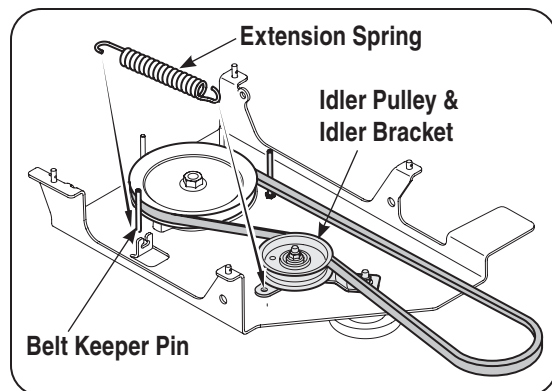

Figure 4-1
1. Attach one end of the extension spring (732-0594A) to the hole in the idler assembly. Mount the opposite end of the extension spring to the belt keeper pin as illustrated in Figure 4-1.